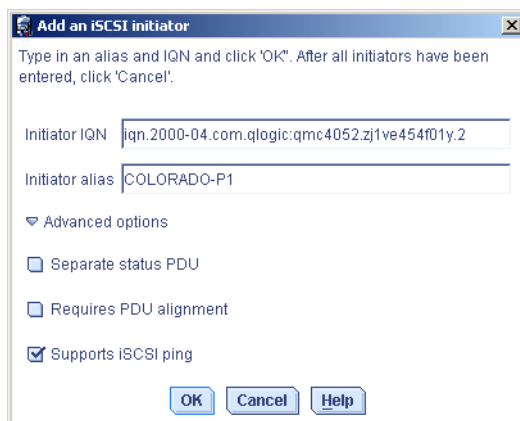

Figure 4-80 IQN of the second port of the iSCSI HBA
25. The IQN of the second port is `iqn.2000-04.com.qlogic:qmc4052.zj1ve454f01y.2` and the alias is `COLORADO-P1`. Enter these values and click **OK**. See Figure 4-80 on page 128.